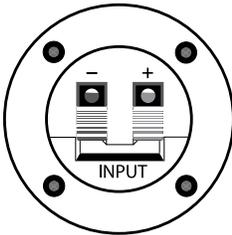

Figure 1.
4. Check the speaker cabinet for a pre-installed terminal cup (see figure 1). The terminal cup will be located on one end of the speaker cabinet.